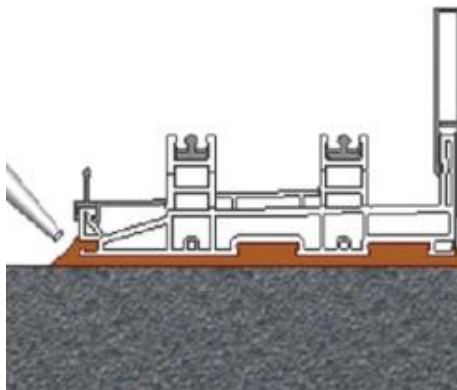

Figure 4
- 5) Once the frame fits into opening freely, seal under entire length of sill and all frame seams. Make sure to include where the frame sill and head meet the main frame jambs. (See Figure 4)